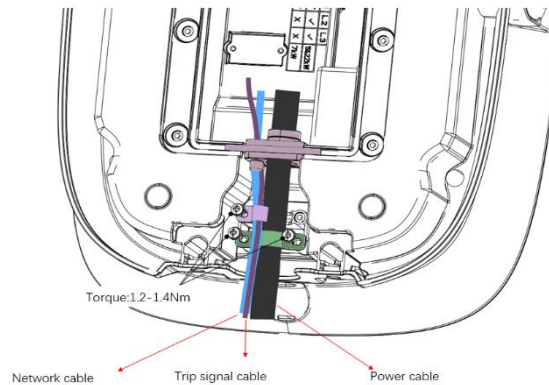

Figure. 13 Crimping cable clip
⑦ Crimp the metal crimping clip to the power cable (PH2 screwdriver, with torque of 1.2-1.4Nm) with two M4*12 Philip's head screws, and crimp the plastic crimping clip with trip signal cable and network cable (PH2 screwdriver, with a torque 1.2-1.4Nm) using a M4*12 Philip's head screw, as shown in Figure. 13.